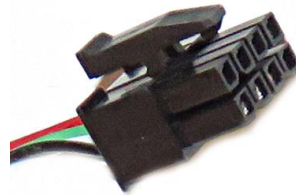

Figure 82
84. Route the 8-pin male connector harness, from the dispose outlet assembly, attached in step 77, under the gas manifold and along the fryer side, to the MIB board on the front of the fryer (see Figure 82).